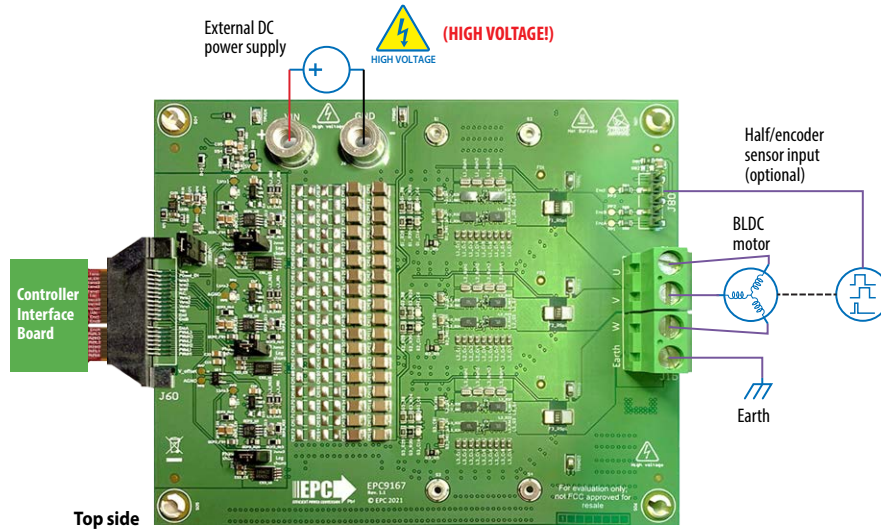

Figure 5: Connection diagram of the EPC9167 configured as a motor drive inverter
A 3-phase BLDC motor drive inverter is the primary application case for which the EPC9167 board was designed for and can be used for either sensor-less or shaft encoder sensor configurations. The motor drive controller options are given in table 4 giving the user various mainstream choices that leverage existing resources to simplify and speed up development and evaluation. Figure 5 shows the simplicity of connecting a controller and motor to the EPC9167. **In the default configuration, the EPC9167 is paired with the EPC9147C that is pre-programmed to power and control a NEMA 34 size motor from Teknic M-3411P-LN-08D, with DC supply voltage of 48 V using sensor-less field orientated control with space vector pulse width modulation (SVPWM).**
The EPC9167 can also be configured as full bridge converter where any two of the three phases can be used. A full bridge connection example is shown in figure 7. Since the full-bridge converter is not specifically referenced to the ground (GNDP), the user must take appropriate measures to ensure the correct load connection. The output voltage can be measured using the applicable phase voltage test points (TP5, TP6, or TP7). The user must ensure that the measurement system is isolated for this type of measurement. Alternatively the output voltage can also be measured using the same technique given in figure 5, using the common ground (GNDP) and subtracting the one signal from the other.
2. Connect the correct motor, whose parameters are programmed into the controller, to the EPC9167 at connector J1 and the DC power supply at connectors J5 and J6 (**Observe correct polarity, there is no inverse polarity protection on board**) and shown in figure 5.